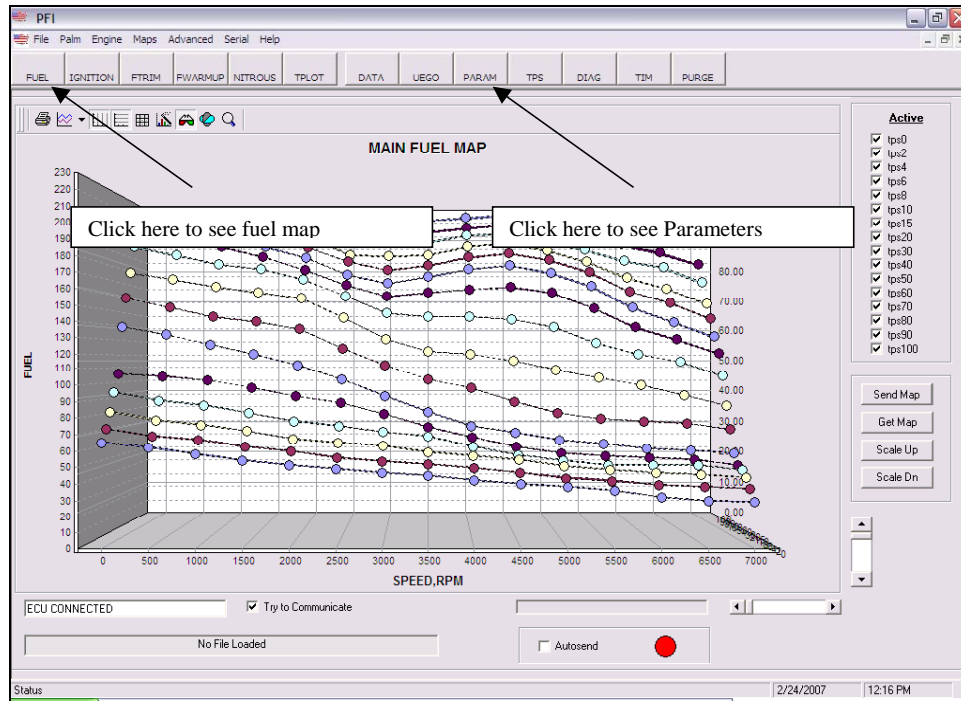

Figure 5. Main screen showing typical fuel map.
- You should now see the main screen, as shown in figure 5. If you don't see the fuel map, click on the “fuel” button.